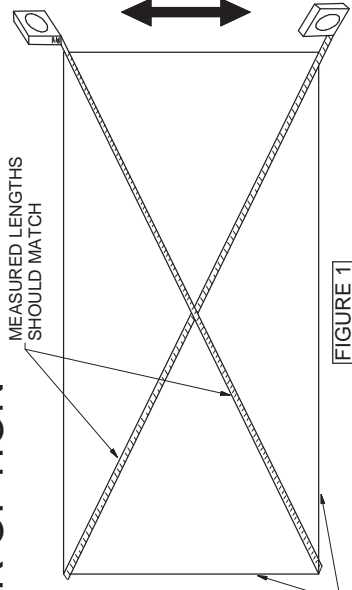

FIGURE 1
1. LAY OUT THE FOUR SIDES OF THE BUILDING ACCORDING TO THE PLAN DIMENSIONS PROVIDED. DRIVE A TEMPORARY STAKE FIRMLY IN EACH CORNER. **FIGURE 1**